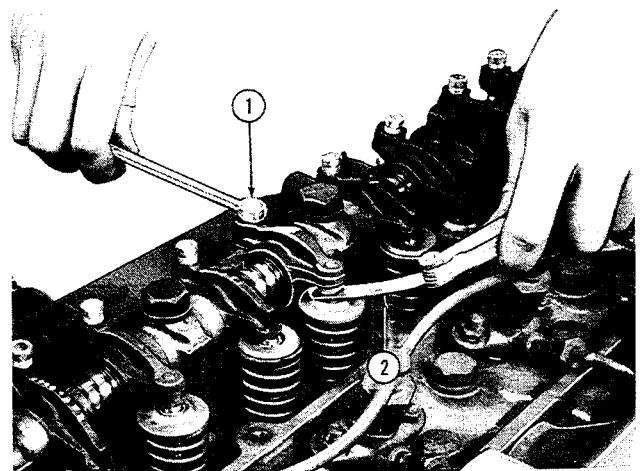

Figure 25
6. Rotate the engine and set the valve lash, Figure 25, to the specified limits, page 85.